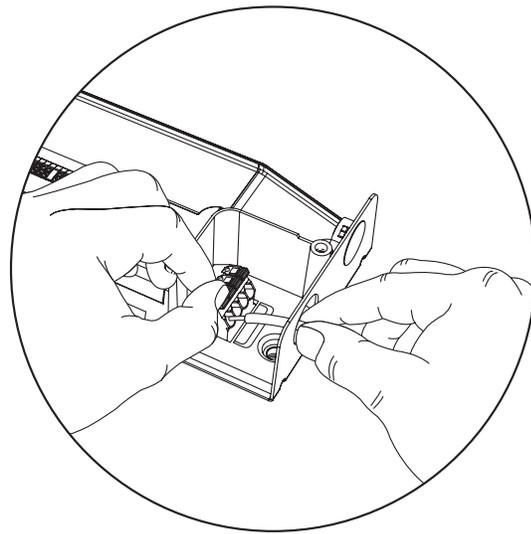

fig. 10
1. Open appropriate terminals by flipping orange levers into UP position (see fig. 10).